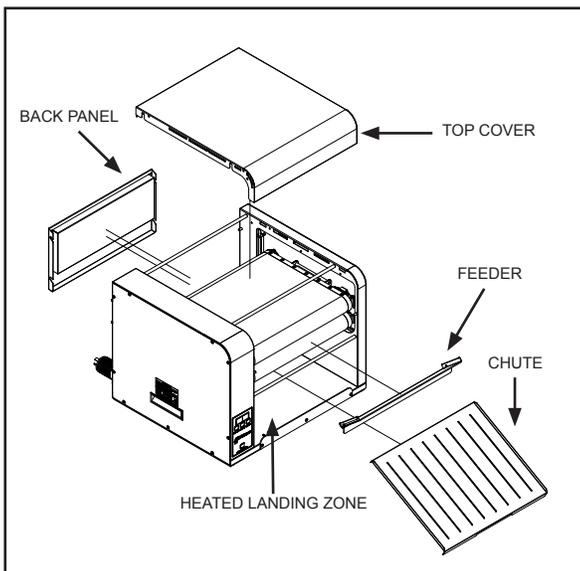

Figure 1.
3. Wearing heat resistant gloves, remove the all accessories, Top cover (if applicable) feeder, chute, rear panel and set aside (Figure 1)